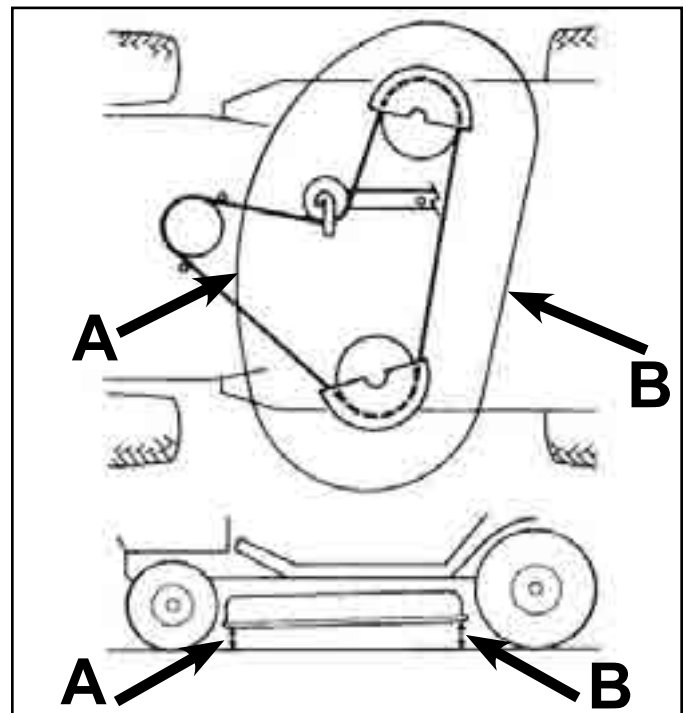

Fig A6 018
7. Check the front-to-rear slope by measuring between the bottom of the mower (front center and rear center) and the flat surface. If the front is not within a range of 1/8" to 3/8" (4 to 11mm) lower than the rear, an adjustment is required (Fig. A6 018).